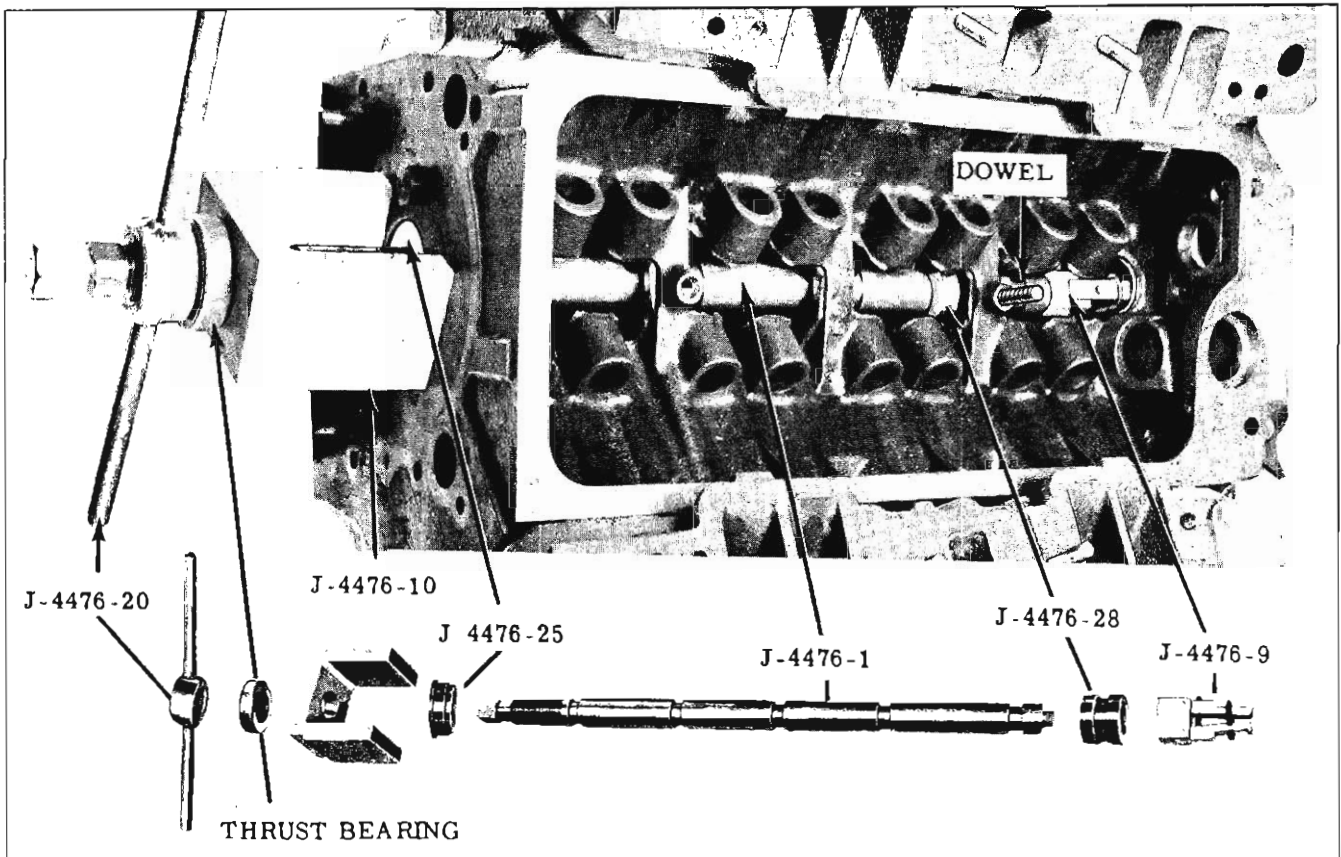

Fig. 3-41 Removing No. 5 Camshaft Bearing
- a. Assemble tools as shown in Fig. 3-41.